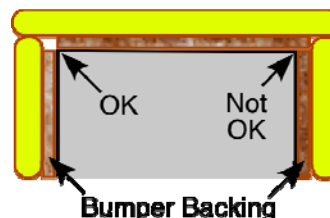

Figure 8 - 4
- O. The BUMPER backing must not extend beyond the “edge” of the ROBOT. The backing of adjacent BUMPER segments must not attach to each other if the attachment would require that the joint extend into the corner (see Figure 8 - 4).